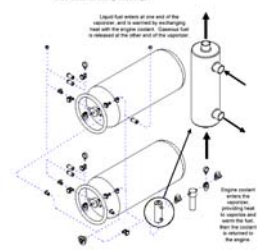

Figure 7.4.1: Vaporizer
Figure 7.4.1 is a schematic representation of a vaporizer in a natural gas vehicle. A vaporizer is used to convert liquid natural gas (LNG) into gaseous natural gas (NG) for use in the engine. The vaporizer is a critical component of the fuel system and must be properly installed and maintained.